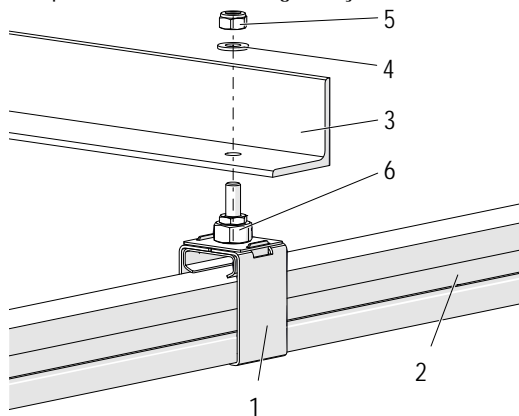

Fig. 58: Dismount ProfiDAT rail
- Slide a PE rail connector (11) onto the aluminium profile and align it with the marking.
- Fix the PE rail connector (11) with the M6 threaded pins (8) (5 Nm).
- Tighten the four M6 lateral flange screws (7) (10 Nm) on the connector.
- Slide the hanger clamps (1) back onto the ProfiDAT rail (2).
- Insert the ProfiDAT rail (2) with hanger clamps (1) into the supporting construction (3) from below and secure the hanger clamps with the nut (5) and washer (4) (see Fig. 58).